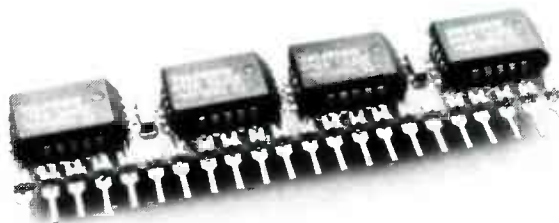

FIG. 2—SMT CAN REDUCE the area of circuit boards. This small Texas Instruments' memory module is made from four SMT 64K × 1 RAM's and four chip capacitors.
• **Reduced Circuit-Board Size**—The compact size of Surface-Mountable Components (SMC's) can substantially reduce the area of circuit boards. Figure 2, for example, shows a miniature Texas Instruments SIP (Single In-line Package) 64K × 4 memory module made from four 64K × 1 RAM's and four chip capacitors.